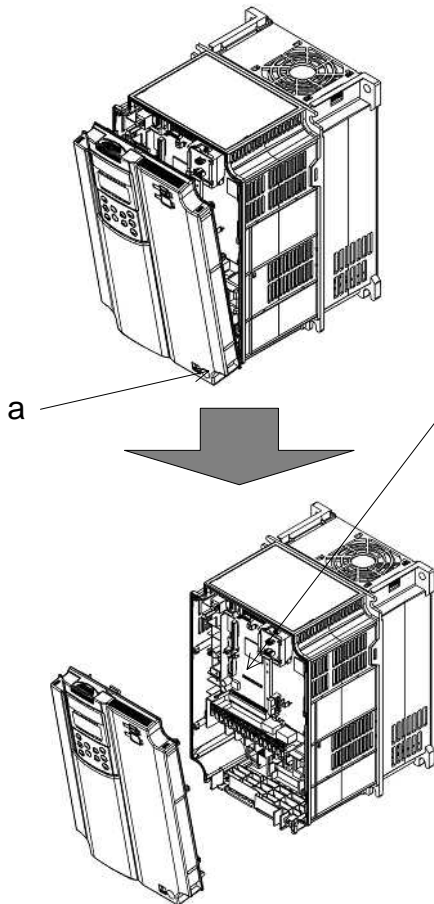

Figure 2.1-1 Removing the Front Cover
As shown in Figure 2.1-1, loosen the cover mounting screw on section "a" and pull out the upper end of the front cover towards you.
- (1) Mount the interface card so that connector CN1 on the card comes to be connected to connector D-port on the control PCB.
- (2) Secure the interface card with two screws "a" (that come with the option) through holes ① and ②, then set four spacers "b" (that come with the option) into holes ③ to ⑥.
- (3) Mount the front cover in the reverse order of removal, referring to Figure 2.1-1 or 2.1-2.